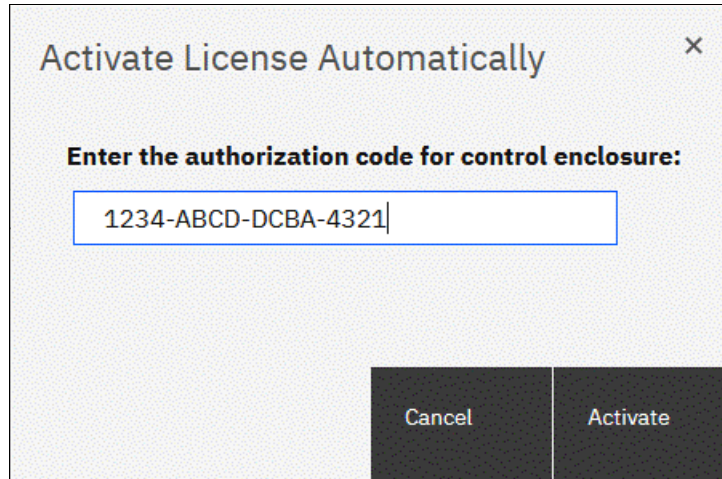

Figure 12-13 Entering an authorization code
2. Enter the authorization code that is specific to the control enclosure that you selected, as shown in Figure 12-13. Click **Activate**.